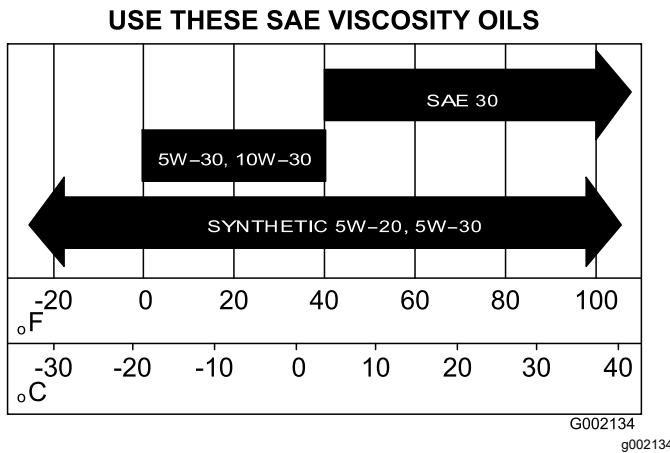

Figure 31
5. Fill the crankcase with the specified oil (Figure 31).